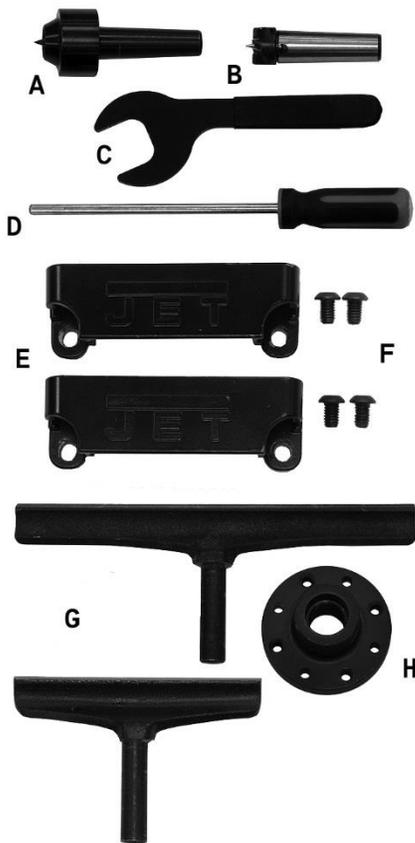

Figure 3
**Carton contents** (see Figure 3)